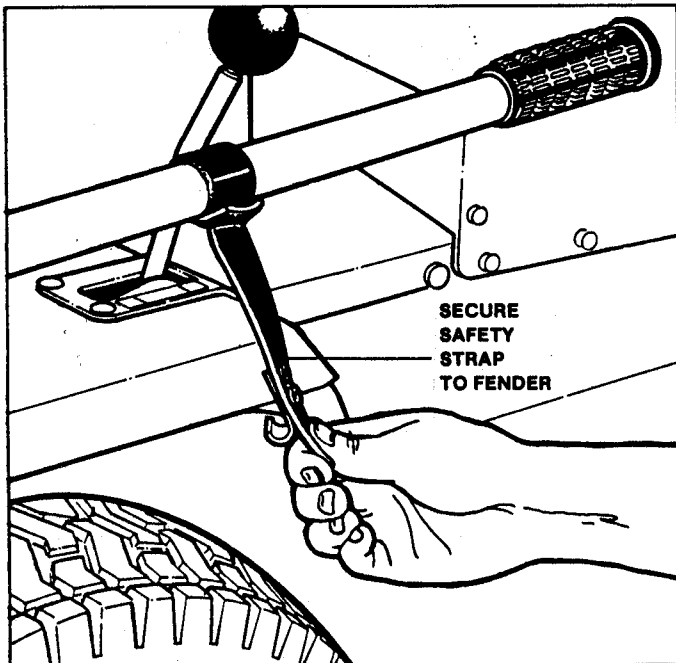

FIGURE 6
5. Make sure safety strap is attached to handle bar and hook it to the tractor fender whenever transporting, servicing or when tiller is raised for any reason. See Figure 6.